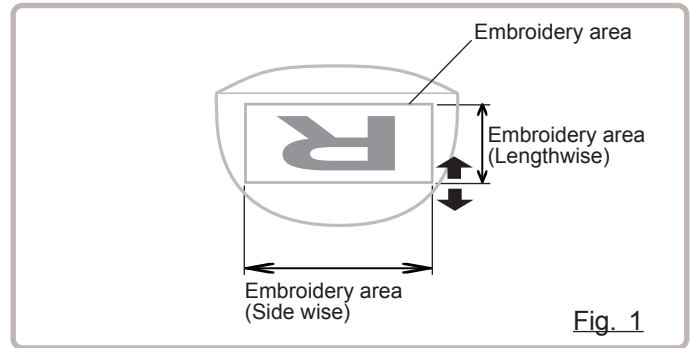

Fig. 1
The embroidery area for each registered frame is set to the inside of the frame edge to allow for pressure foot clearance. (Fig. 1)
The embroidery area of HAPPY semi-wide and wide cap frames is saved in the machine. The Y axis of the embroidery area can be adjusted for a variety of caps. (Fig. 1)
The embroidery area of each registered frame is set to the inside of the frame edge for pressure foot clearance. (Fig. 1, 2)
■ The embroidery area of each registered frame is set to the inside of the frame edge for pressure foot clearance. (Fig. 1, 2)